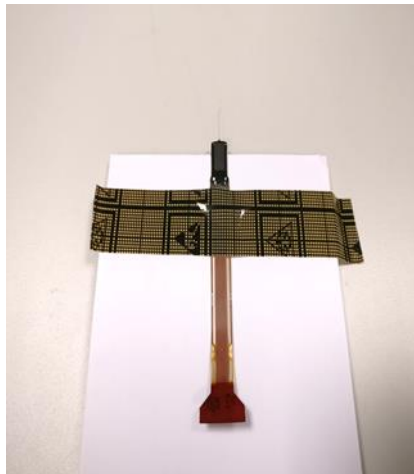

Figure 41: Fixing the probe before soldering.
- Fix the probe to a clean surface. A good method is to use ESD tape. (Figure 41)